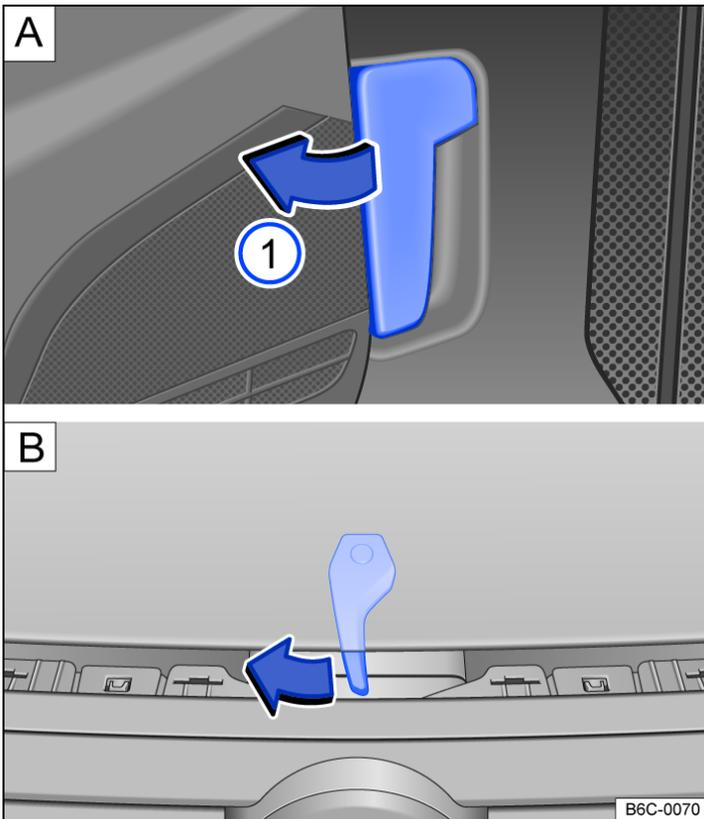

Fig. 1 **A** In the footwell on the driver side: release lever for the bonnet. **B** Above the radiator grille: bonnet opening lever.
- Lift the bonnet slightly and at the same time press the opening lever in the direction of the arrow → Fig. 1 B to fully open the bonnet.